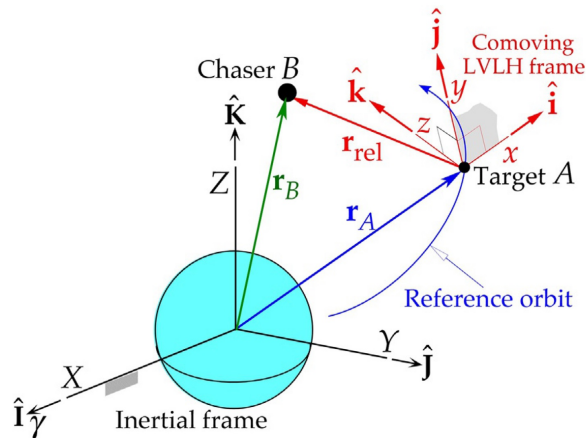

Figure 1: Position of chaser relative to the chief/target spacecraft and the definition of the Local-Vertical Local-Horizontal (LVLH) frame.
Here, m denotes the spacecraft mass, which is assumed to be constant during the maneuver since the low-thrust propulsion system has a high specific impulse value. Note that the x coordinate is in the radial direction, the y coordinate is in the in-track direction, and the z component is in the out-of-plane direction (along the osculating angular momentum vector). Figure 1 depicts the scenario and the definition of the chaser and target spacecraft along with the co-moving LVLH frame. If the orbit of target vehicle is a circle, then the LVLH frame is called a Clohessy-Wiltshire (CW) frame. The relation for ω can be found in the same chapter. Under this assumption, the equations of motion of the chaser in the CW frame are given in Eq. (1).